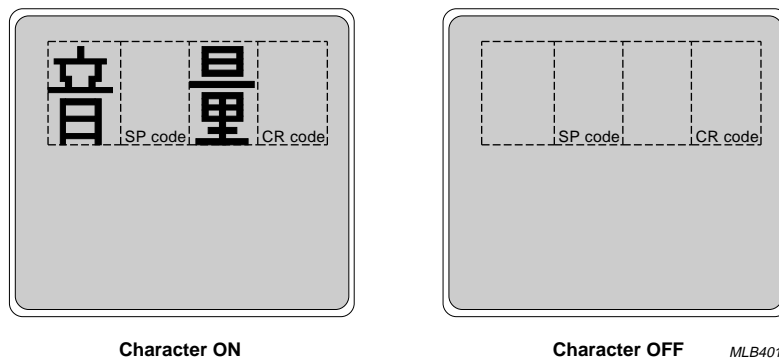

Fig.26 Blinking in Frame shadowing mode.
- Mode 3: Frame shadowing mode. The Space Code and the Carriage Return Code are both displayed as transparent patterns with background colour (see Fig.26).